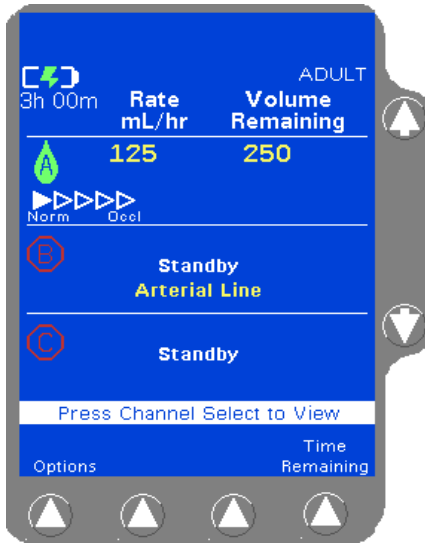

Figure 4-109 Flow Check Main
2. Use the $\uparrow\downarrow$ keys to highlight **Flow Check** and then press the **Select** soft key. The status is displayed on the Main Display for 10 seconds (Figure 4-109).